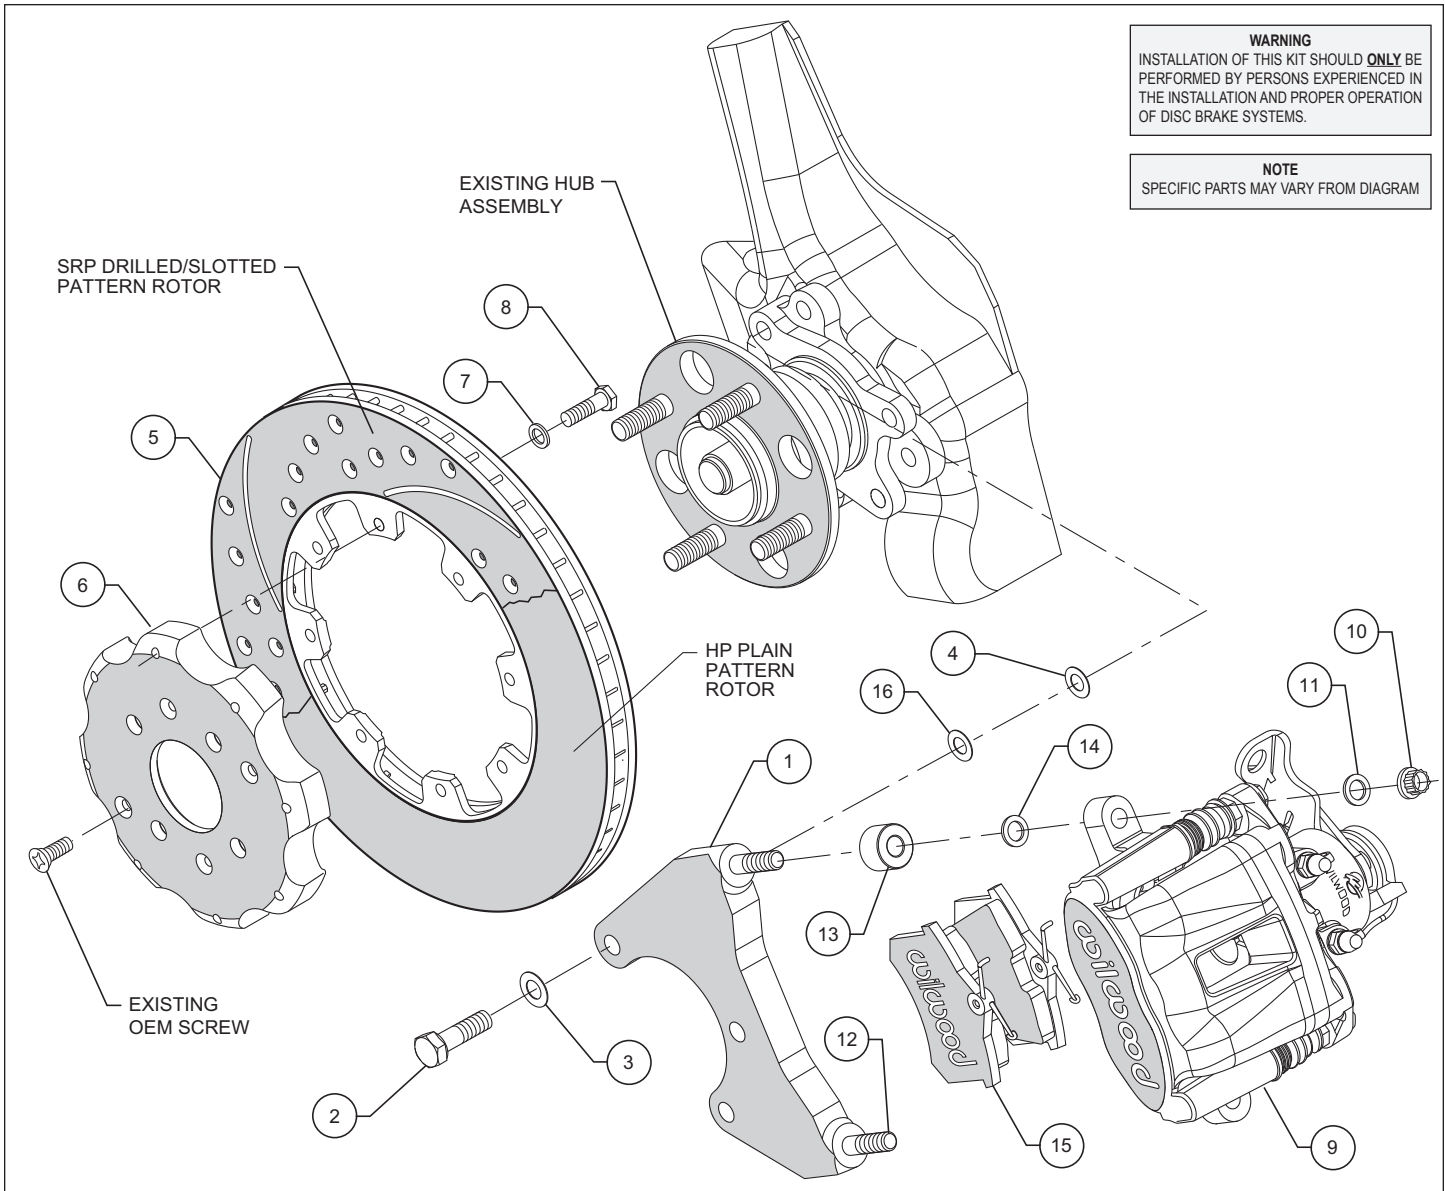

Figure 1. Typical Installation Configuration
- The caliper mounting bracket (1) should be installed first with clean, dry threads on the mounting bolts. Install the bracket (1) on the outboard side of the hub assembly by sliding bolt (2) through washer (3) and bracket (1) and thread into the existing hub assembly mounting holes. Place two shim washers (16) between the hub and the caliper mounting bracket (1). The mounting bracket (1) must tighten squarely against the outboard side of the hub assembly face. Inspect for interference from casting irregularities, machining ridges, burrs, etc. Use two shims (16) between the mounting bracket (1) and hub assembly face during initial trial fitting.
- With the larger I.D. side of the rotor (5) facing away from the hat (6), attach rotor (5) to hat (6) using washers (7), and bolts (8) as shown in Figure 1. Using an alternating sequence, remove bolts one at a time, apply red *Loctite*® 271 to the threads, and torque to 180 in-lbs. The rotor mounting bolts (8) must be lockwired using standard 0.032 inch diameter stainless steel safety wire as shown in Figure 3. Please refer to Wilwood's data sheet DS-386 (available at [www.wilwood.com/Pdf/DataSheets/ds386.pdf](http://www.wilwood.com/Pdf/DataSheets/ds386.pdf)) for complete safety wire installation instructions.
- Slide the brake pads (15) up into the caliper (9) from the bottom until the "v" spring clip snaps into place against the anvil. They should install easily without interference.
- Lubricate caliper mounting studs and nuts with lightweight oil. Install spacer (13) and two shims (14) over each stud (12) on the radial mount bracket (1). Slide the caliper (9) in place over the studs and rotor and install the washer (11) and lock nut (10) to hold the caliper in place. The caliper bleed screw should be pointing toward the rear of the vehicle. Snug the lock nuts (10) and check that the caliper (9) is centered over the rotor (5). Add or subtract .016" shims (4) and/or .035" shims (16) as necessary between the caliper mounting bracket (1) and the spindle face to center the caliper (9) on the rotor (5).
- Check that the outside radius of the brake pad (14) is aligned with the outside diameter radius of the rotor face. Add or subtract shims (14) between the caliper (9) and caliper mounting bracket (1) to gain the proper alignment.
- Once all clearances have been checked, remove the wheel, caliper and rotor from the axle flange. Secure the caliper mounting bracket (1) to the spindle face while applying red *Loctite*® 271 on the bolt threads (2). Torque the bolts (2) to 22 ft-lbs. Reinstall the rotor and again use several lug nuts to hold it in place being sure to align the small countersunk holes in the hat (6) with the corresponding holes in the hub. Reinstall the caliper, torque the caliper nuts (10) to 28 ft-lbs.